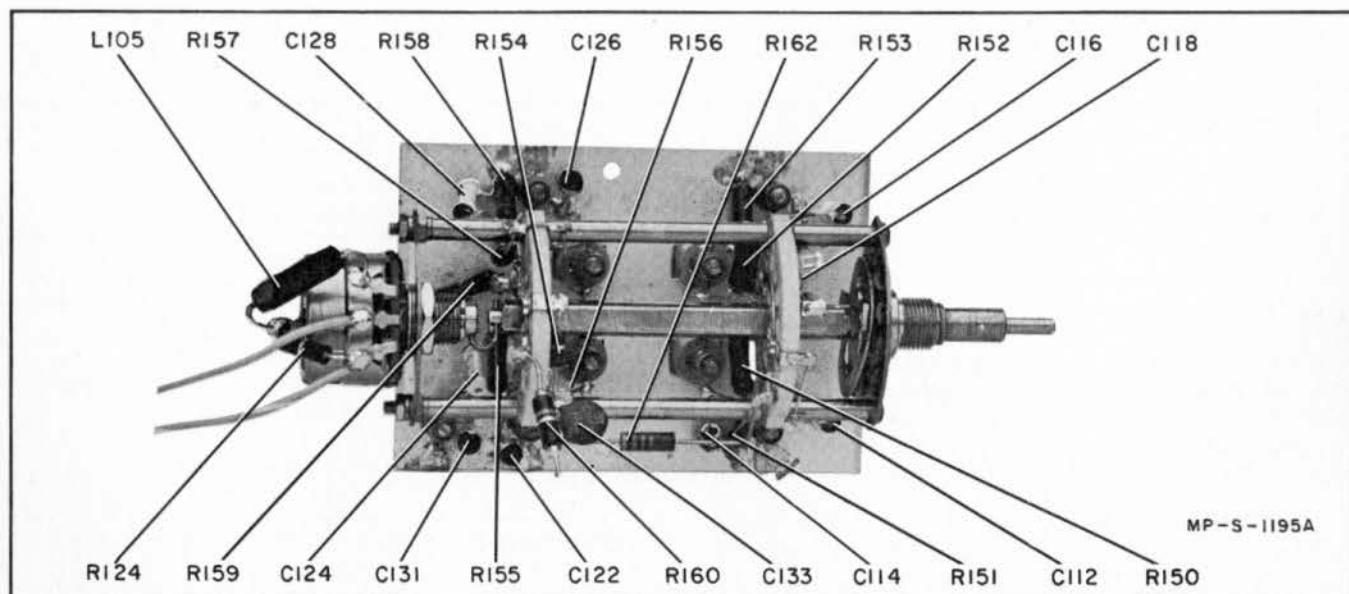

Figure 5-1. Parts Location, Channel A Attenuator
**5-25. LOCATION OF PARTS.** Figures 5-1 through 5-4 show the location of components not part of an assembly. These components are listed by reference designator and cross-referenced in table 6-1. Table 6-1 lists all components included in each assembly, and these components are for the most part identified by silkscreening or by panel engraving.